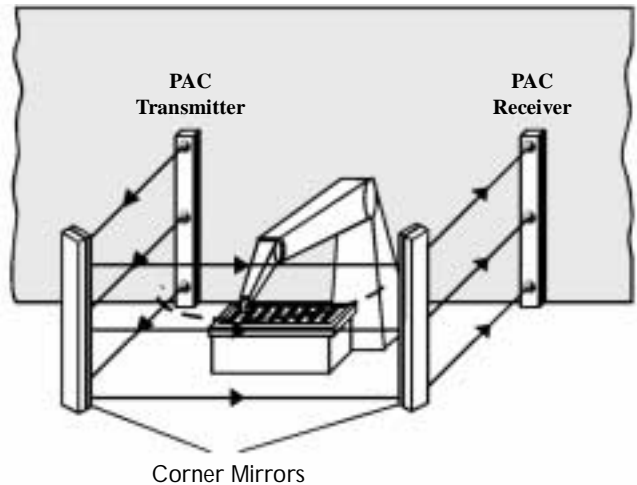

Figure 4 Three-beam PAC multi-beam safety light barrier for safeguarding access to a robot
- Access control for processing areas (Figure 4).